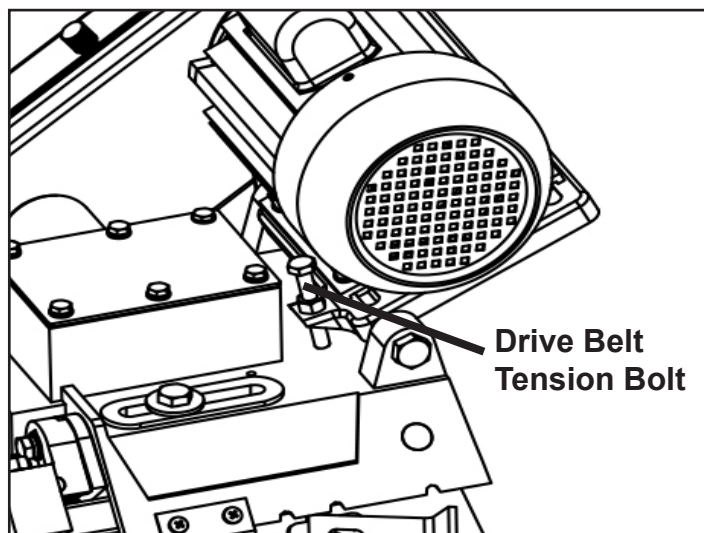

FIGURE 9
5. After the V-belt is installed on the desired speed, adjust the tension with the drive belt tension bolt. SEE Figure 9.